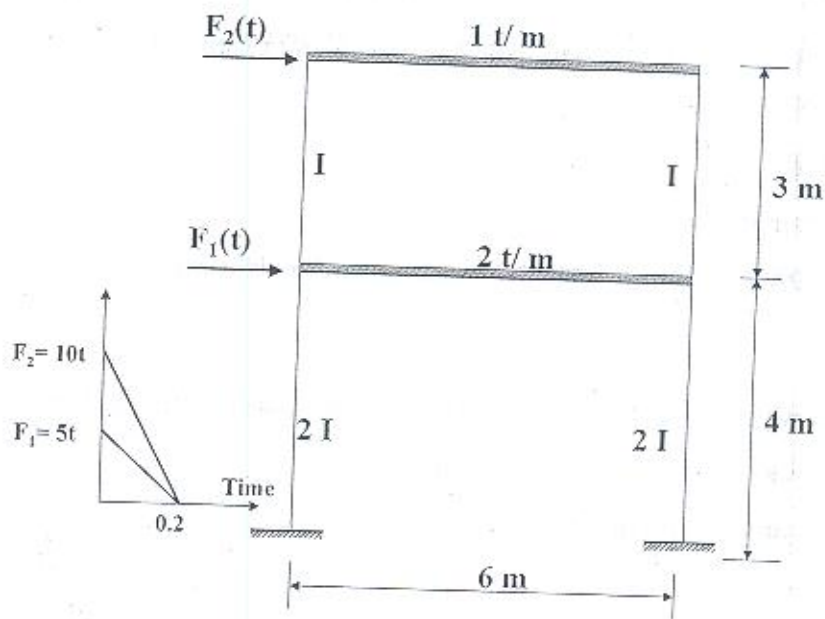

Figure 4
Figure 4 shows plan of typical floor of RC flat slab with panel  $8\text{m} \times 7.2\text{m}$  and slab thickness  $0.25\text{m}$  ( $t_s = 250\text{mm}$ ) without drop panel and with column head  $1.85\text{m} \times 1.85\text{m}$ . The flat slab is resting on square columns  $0.5\text{m} \times 0.5\text{m}$ . The marginal beams  $0.3\text{m} \times 0.9\text{m}$  are used at the outer edges of the flat slab AB, AC, and BD. The edge CD is free without marginal beam. The flat slab is subjected to a uniformly live load  $5\text{kN/m}^2$  and cover flooring  $1.25\text{kN/m}^2$ . Using the empirical method of the Egyptian code of practice for design of flat slab, it is required to carry out the following:
A flexible Raft 20m x 20m is carrying a building and a tower (Figure 4). The building is imposing uniform pressure of 125 kPa and the tower is imposing additional uniform pressure of 175 kPa. The building and tower are resting on the profile in Figure (4). Estimate at the center of the raft A, at edge of the tower B and at edge of raft C
For the two story shear building and the impulsive triangular forces shown in figure 4 with  $E = 200 \text{ t/cm}^2$ ,  $I = 0.001 \text{ m}^4$ ,  $(DLF)_{1 \text{ max}} = 1.4$  and  $(DLF)_{2 \text{ max}} = 1.8$ , determine: